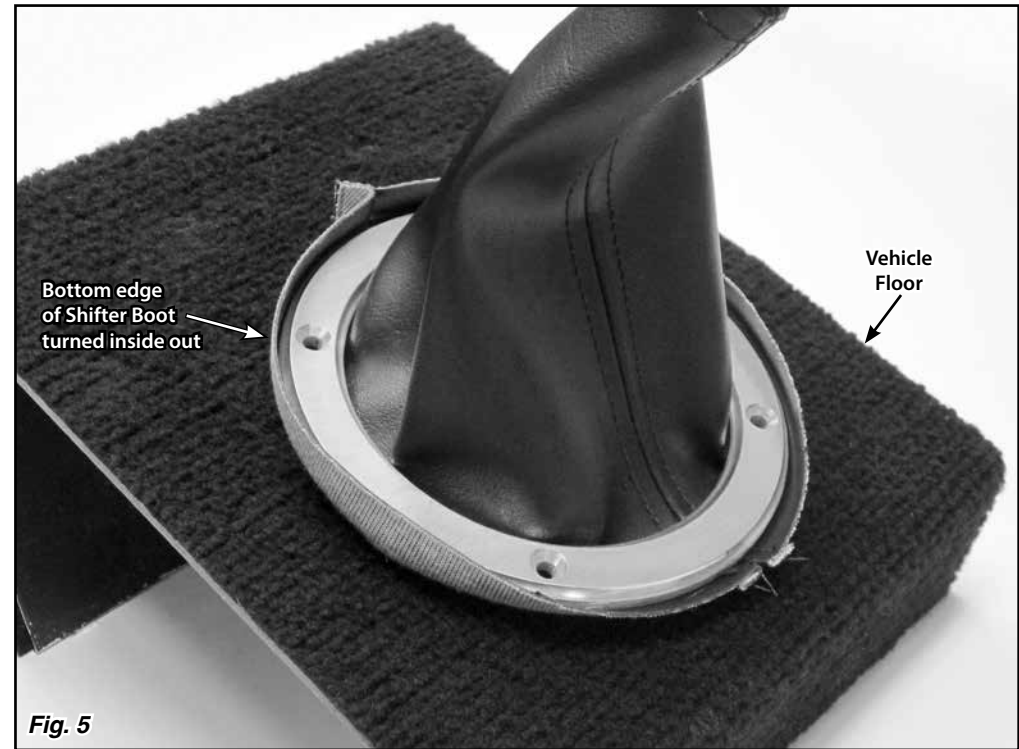

Fig. 5
Step 6: Install the Boot Ring over the shifter lever and Shifter Boot. Turn up the bottom edge of the Shifter Boot, stretching and flipping the bottom edge inside out so it wraps around the outside edge of the Boot Ring. **Fig. 5** Get the Boot Ring positioned correctly against the top of the tunnel, and the top of the Shifter Boot at your desired height on the shifter lever.